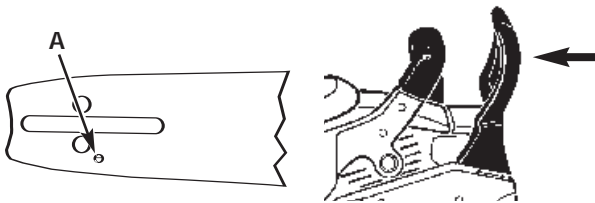

Fig. 21
CAUTION: To ensure the bar and chain receive oil, **ONLY USE THE ORIGINAL STYLE BAR** with the oil passage hole (A) as illustrated in Fig. 21.
1. Make sure the Chain Brake® lever is pulled back into the DISENGAGED position (Fig. 21).